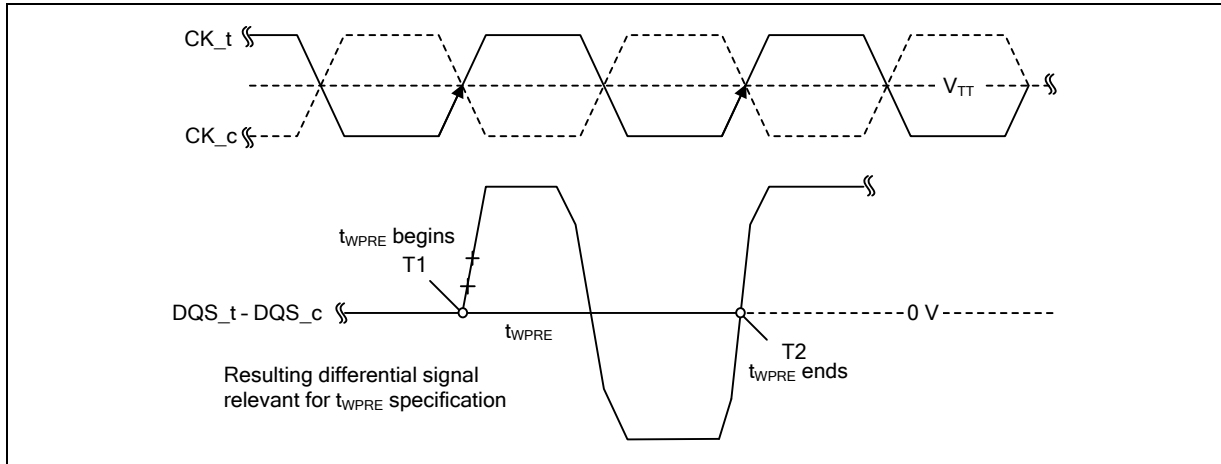

Figure 17 - Method for calculating t_{WPRE} Transitions and Endpoints
The Burst Write command is initiated by having CS_n LOW, CA0 HIGH, CA1 LOW and CA2 LOW at the rising edge of the clock. The command address bus inputs, CA5r-CA6r and CA1f-CA9f, determine the starting column address for the burst. Write Latency (WL) is defined from the rising edge of the clock on which the Write Command is issued to the rising edge of the clock from which the tDQSS delay is measured. The first valid data must be driven WL x tCK + tDQSS from the rising edge of the clock from which the Write command is issued. The data strobe signal (DQS) must be driven for time tWPRE prior as shown in Figure 17 prior to data input. The burst cycle data bits must be applied to the DQ pins tDS prior to the associated edge of the DQS until the 8-bit burst length is completed. After a burst Write operation, tWR must be satisfied before a Precharge command to the same bank can be issued. Pin input timings are measured relative to the crosspoint of DQS_t and its complement, DQS_c.